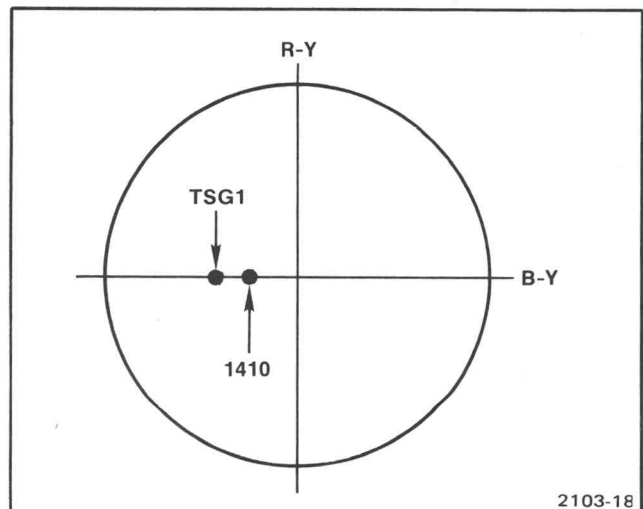

Fig. 4-9. Subcarrier phase adjustment illustration.
a. Connect the 1410 Mainframe subcarrier output cable to the vectorscope CW Ext Φ Ref input and loop through to CH B through the 10X attenuator pad. Connect the TSG1 output cable to CH A. Display CH A and CH B. See Fig. 4-9.